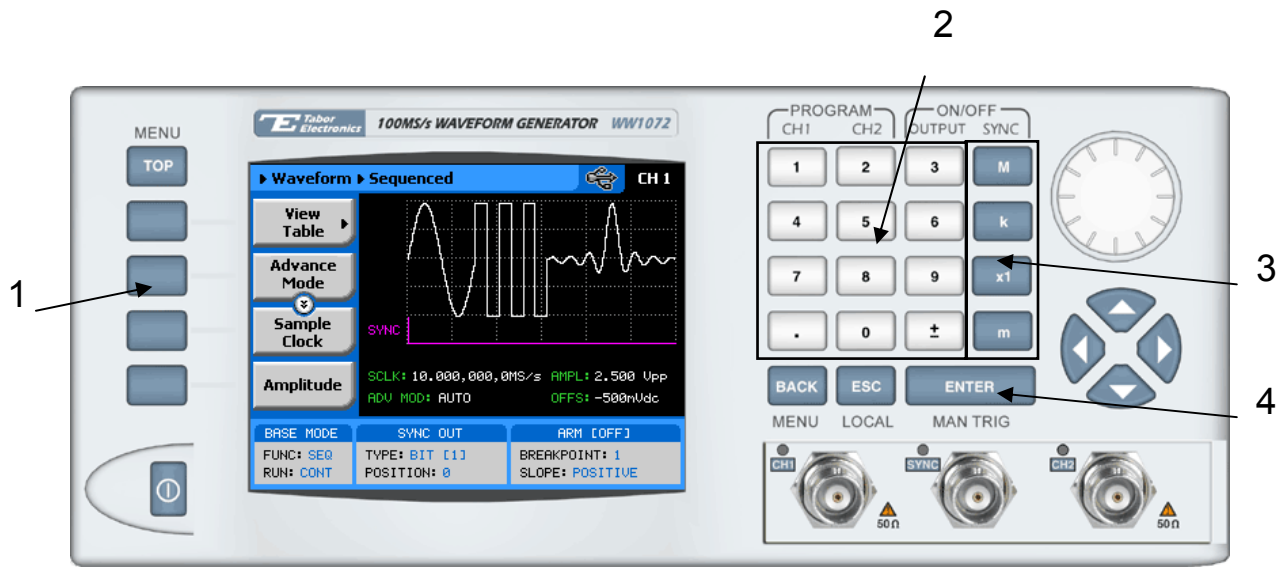
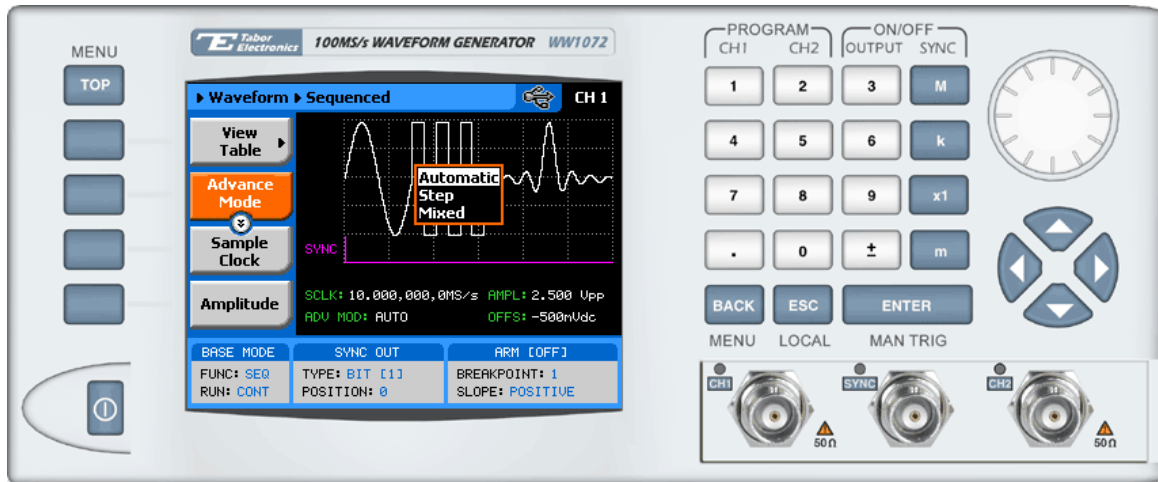

Figure 3-19, Sequence Parameters
Figure 3-21, Sequence Advance Options
Refer to Figure 3-19 and use the following description to learn how to output sequenced waveforms and how to program sequence parameters. To select Sequenced waveforms as the output waveform type press Waveforms, then Sequenced. The screen as shown in Figure 3-19 will display and the output will already generate arbitrary waveforms. Note the channel you are currently program and make sure the icon at the upper right corner agrees with your required programming sequence.
1. Refer to Figure 3-19 and select the Advance Mode with the appropriate soft key. The advance mode options, as shown in Figure 3-21 will display. Use the dial or arrow keys to scroll down to the required mode and press Enter to lock in the selected mode.
The operating mode of the instrument, as selected from the Run Modes menu, affects the way that the 1072 lets you access the sequence advance mode parameter. If you are in continuous mode, as shown in Figure 3-21, you can select one of: **AUTO**, **STEP**, or **MIXED**. If you already selected the triggered run mode, you'll be able to select from **AUTO**, or **SINGLE** only as advance modes.